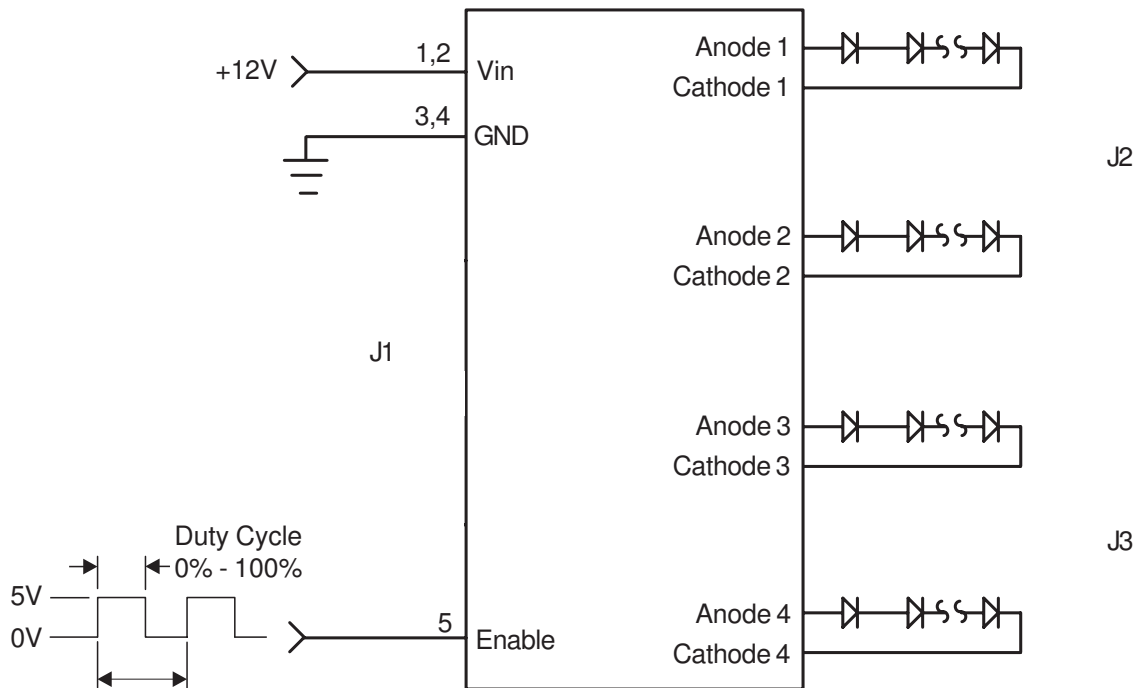

Figure 1
- OPERATION: External PWM configuration as shown in Figure 1 allows the user to control display brightness with an externally generated PWM signal. The user is responsible to provide the PWM signal. A dimming ratio up to 5000:1 at  $\leq 200$  Hz is possible with this configuration.